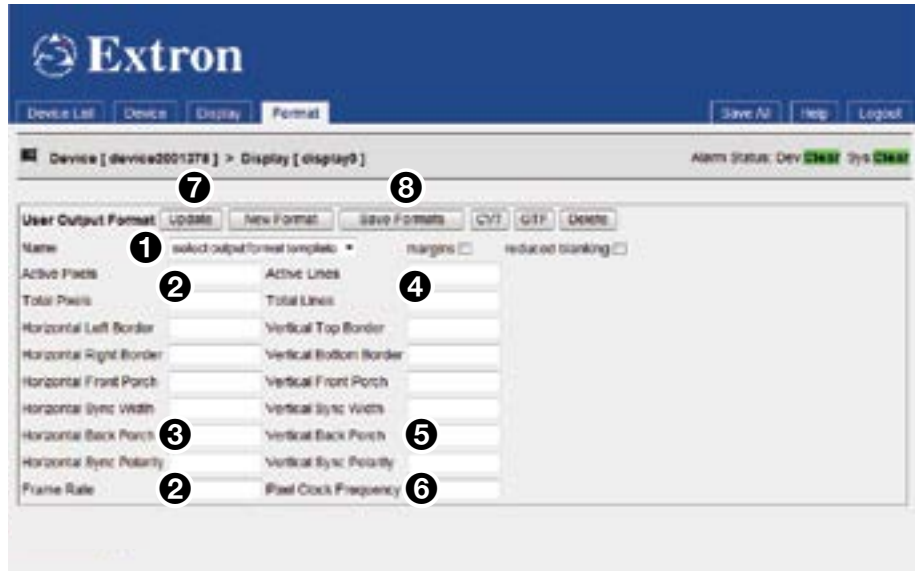

Figure 69. Decoder Format Tab
2. In the **Name** drop-down list (see figure 69, ①), ensure that the mode you have just built is selected, then click **Update**.
4. Enter the values for **Active Pixels**, **Frame Rate**, and **Total Pixels** (②) that were returned in the Telnet session.
6. Enter this value into the **Horizontal Back Porch** field (see figure 69, 3, on the previous page).